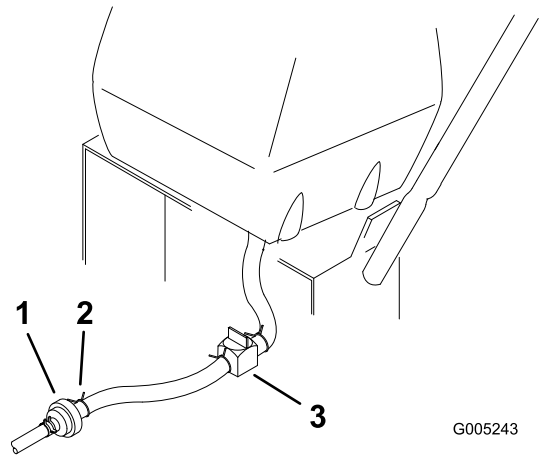

Figure 30
3. Close the fuel-shutoff valve at the fuel tank (Figure 30).
4. Squeeze the ends of the hose clamp together and slide it up the fuel line away from the fuel filter (Figure 30).
5. Pull the fuel line off the fuel filter (Figure 30).
7. Open the fuel-shutoff valve at the fuel tank (Figure 30).